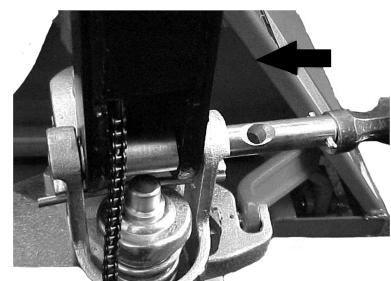

Fig. 6: Axle assembling
b) Insert the tiller arm(1) into the pump piston, then use a hammer to insert the axle with hole into the hydraulic pump and tiller arm from the right to the left (Fig. 6).